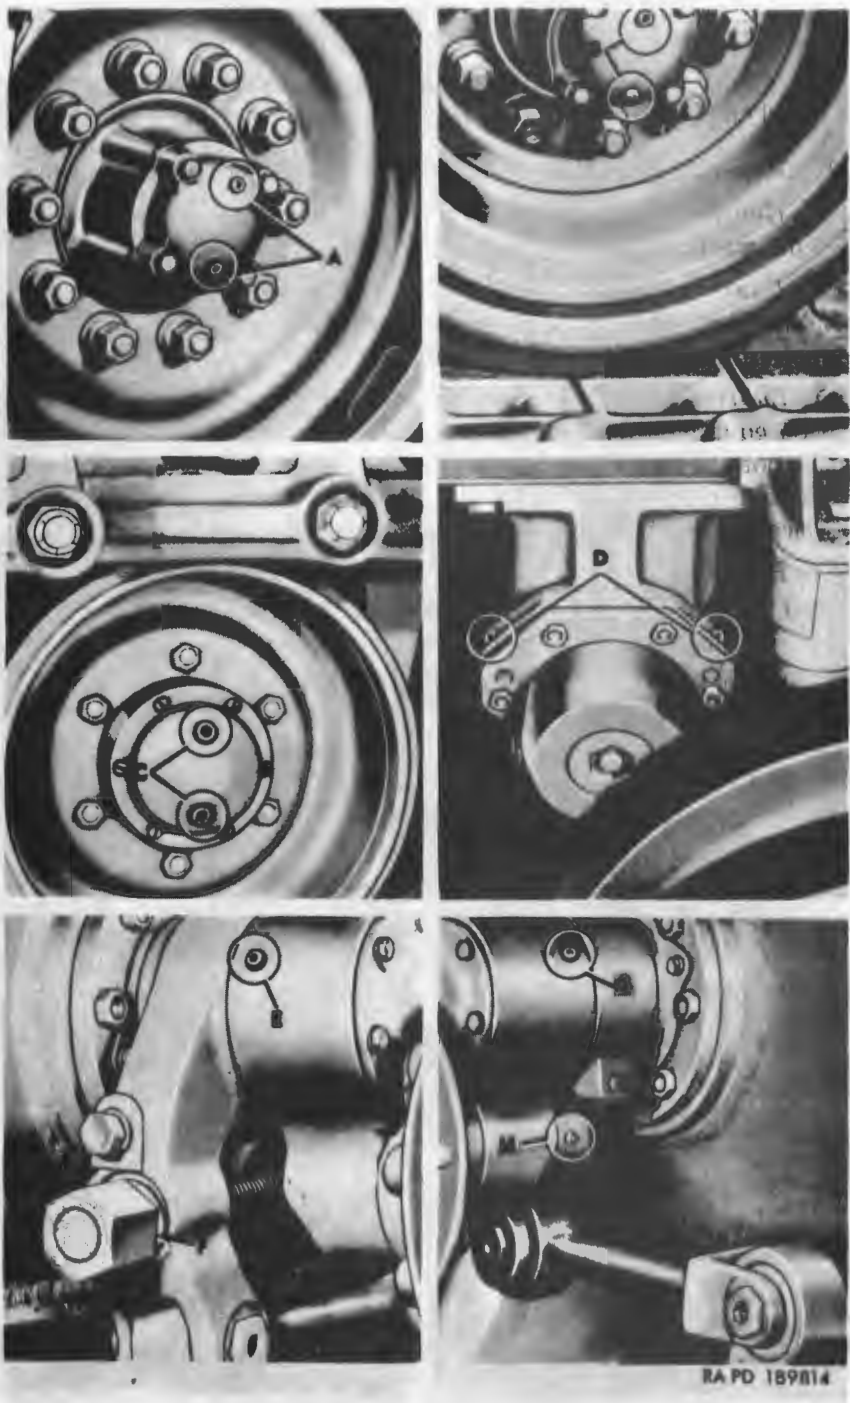

Figure 79. Localized lubrication points (A-H).
- (1) Lubrication fittings, grease cups, oilers, and oilholes are shown in figures 79 through 85 and are referenced to the lubrication order. Wipe these devices and the surrounding surfaces clean before and after lubricant is applied.
- (2) A $\frac{3}{4}$ -inch red circle should be painted around each lubricating fitting and oilhole.